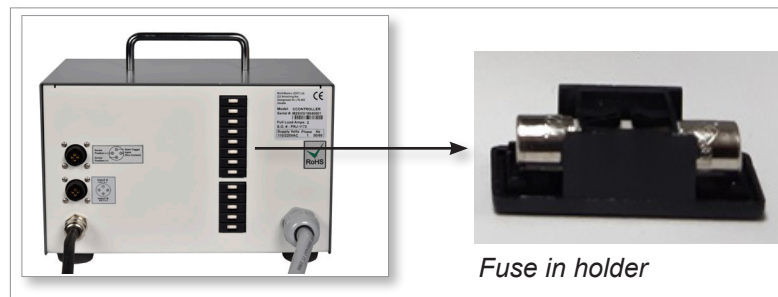

Figure 7-2 Fuse bank - compact SVG controller
2. Pull the fuse holder out by hand. See Figure 7-2.